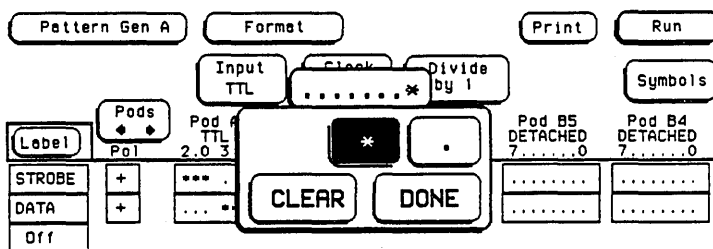

Figure 3-20. Data Output Select
- i. Select data output 0 as shown in figure 3-20. Touch **Done**.